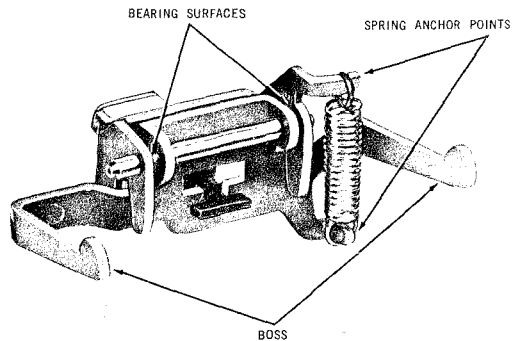

Fig. 4 — Line Switch Assembly
4.04 The operating bracket assembly should function without binding. To eliminate any binding or squeaking, clean bosses on operating bracket arms, spring anchor points, operating brackets, shaft bearing points, and pins with a KS-2423 cloth moistened with KS-7860 petroleum spirits. Lubricate bearing surfaces (Fig. 4) with a No. 2 or softer graphite pencil.